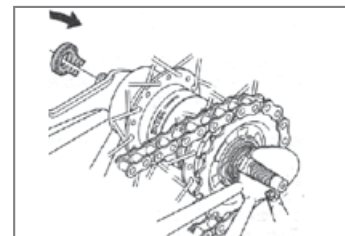

Fig. 64. Installation of adjusting washer
1. Install the adjusting washer, Fig. 64.